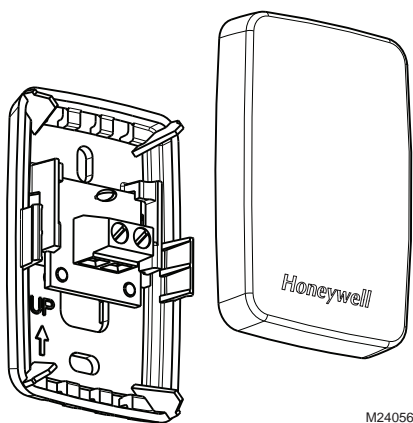

Fig. 75. Remove the cover.
1. Remove the cover from the remote sensor (see Fig. 75).